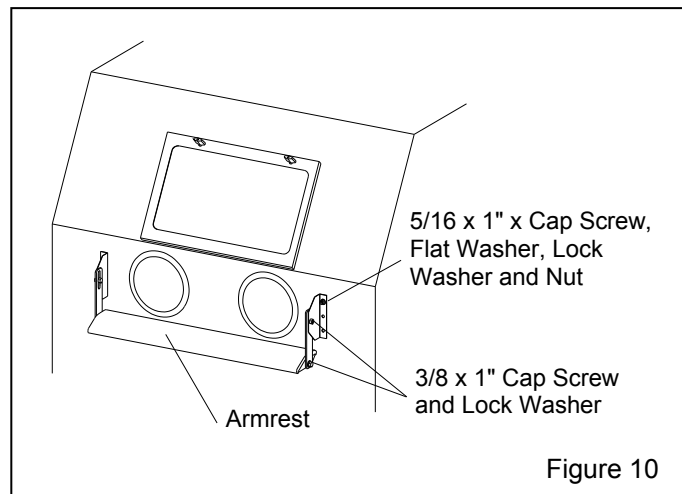

Figure 10
3.4.1 Assemble the armrest and mounting brackets as shown in Figure 10.